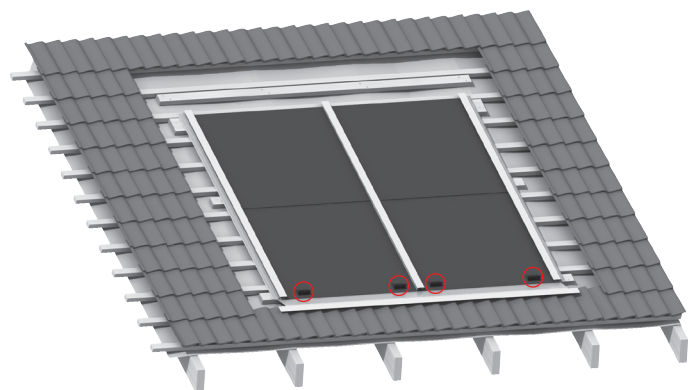

Figure 6-21: Location of bottom Mounting Brackets
1. Position mounting brackets (04) at the bottom of the base tray with the bottom edge of the mounting brackets 10mm above the bottom edge of the base tray. Refer to Figures 6-21 to 6-23. Carefully mark their position on the base tray with a pencil.